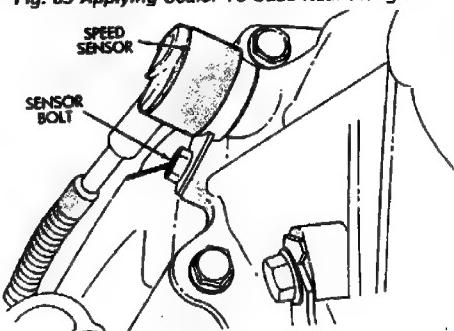

Fig. 66 Installing Speed Sensor
(89) Install extension or adapter housing on transmission. Tighten housing/adapter bolts to 34 N·m (25 ft-lbs) torque.
(90) Install speed sensor (Fig. 66). Tighten sensor bolt to 7.4 N·m (65 in-lbs) torque and connect sensor wire harness connector.